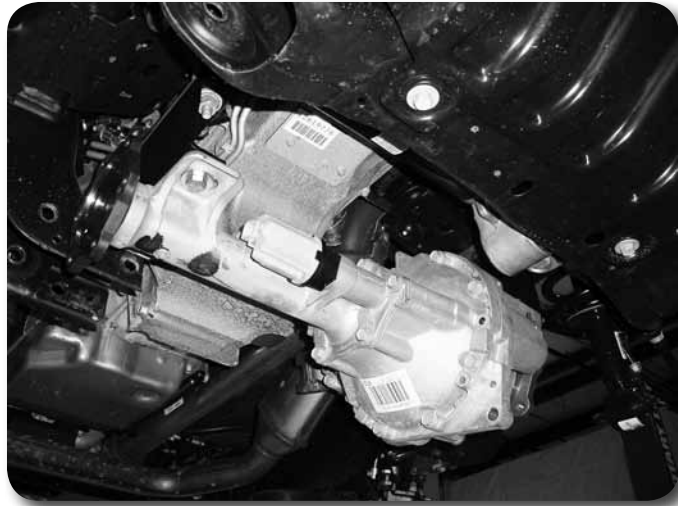

Figure 20
32. Using an appropriate jack, install the differential in the vehicle by attaching it to the new driver's and passenger's differential brackets. Fasten the differential to the brackets with 1/2" x 1-3/4" bolts, nuts and washers. Use two 1/2" SAE washers on each bolt for the driver's side. Use one 1/2" SAE washer and one extra large 1/2" washer on the passenger's side. The extra large washer will go against the differential housing flange with the large slots **Figures 20**. Torque the 1/2" hardware to 65 ft-lbs. Pull the differential forward as the passenger's side bolts are tightened.